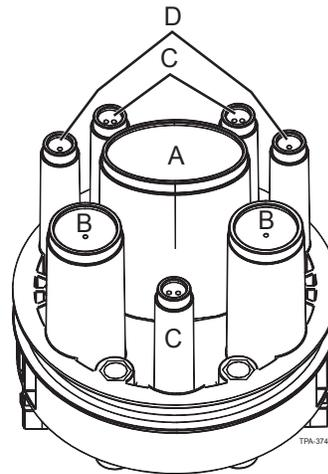

Figure 2
Multiple cables may be installed in the ports. Refer to Figure 2 for details.
**Step 2:** Open the appropriate cable port for your application based on the table in Figure 2. When using ports other than the oval port, use a taller port before using a shorter port.
**Step 1:** Remove indicated length of cable sheath according to Figure 2.